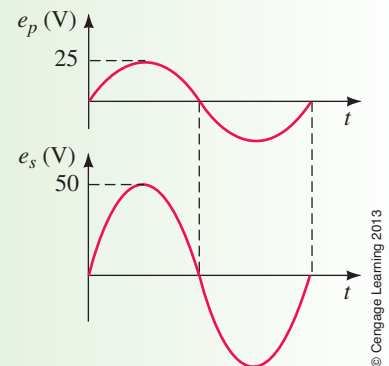

FIGURE 23–9
- Primary and secondary voltages are in phase as noted earlier. Figure 23–9 shows the waveforms.
If the transformers of Figure 23–7 have 600 turns on their primaries and 120 turns on their secondaries, and $\mathbf{E}_p = 120 \text{ V} \angle 0^\circ$, what is \mathbf{E}_s for each case?